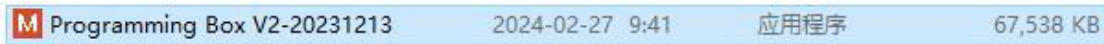

Figure 23
- 1.2 open the “Programming Box V2-20231213” software(Figure 23)